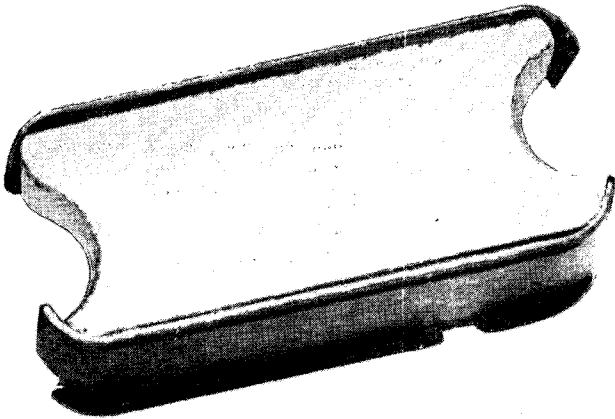

Figure 83. The M1 clip fitted with grooved wooden block.
c. From his position, the coach strikes the operating rod handle sharply to the rear and releases it. The result is the same as if you actually fire your rifle; the sight picture is disturbed, the rifle recoils, and cocking takes place. To prevent the bolt from staying in the rear position, a clip fitted with a grooved wooden block is used (fig. 83). This clip is loaded into the receiver in the same manner as a clip of live or dummy rounds.